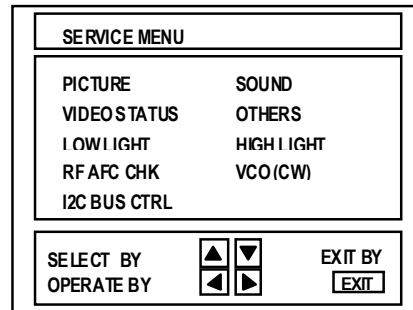

Fig.1
(5) Receiving channel setting	Refer to the OPERATING INSTRUCTIONS (USER'S GUIDE) and set the receive channels (Channels Preset) as described.
(6) User settings	<p>Check the user setting items according to the Table 2 given page later.</p> <p>Where these do not agree, refer to the OPERATING INSTRUCTIONS (USER'S GUIDE) and set the items as described.</p>
(7) SERVICE MENU setting	Verify what to set in the SERVICE MENU, and set whatever is necessary. (Fig. 1) refer to the SERVICE ADJUSTMENT for setting.